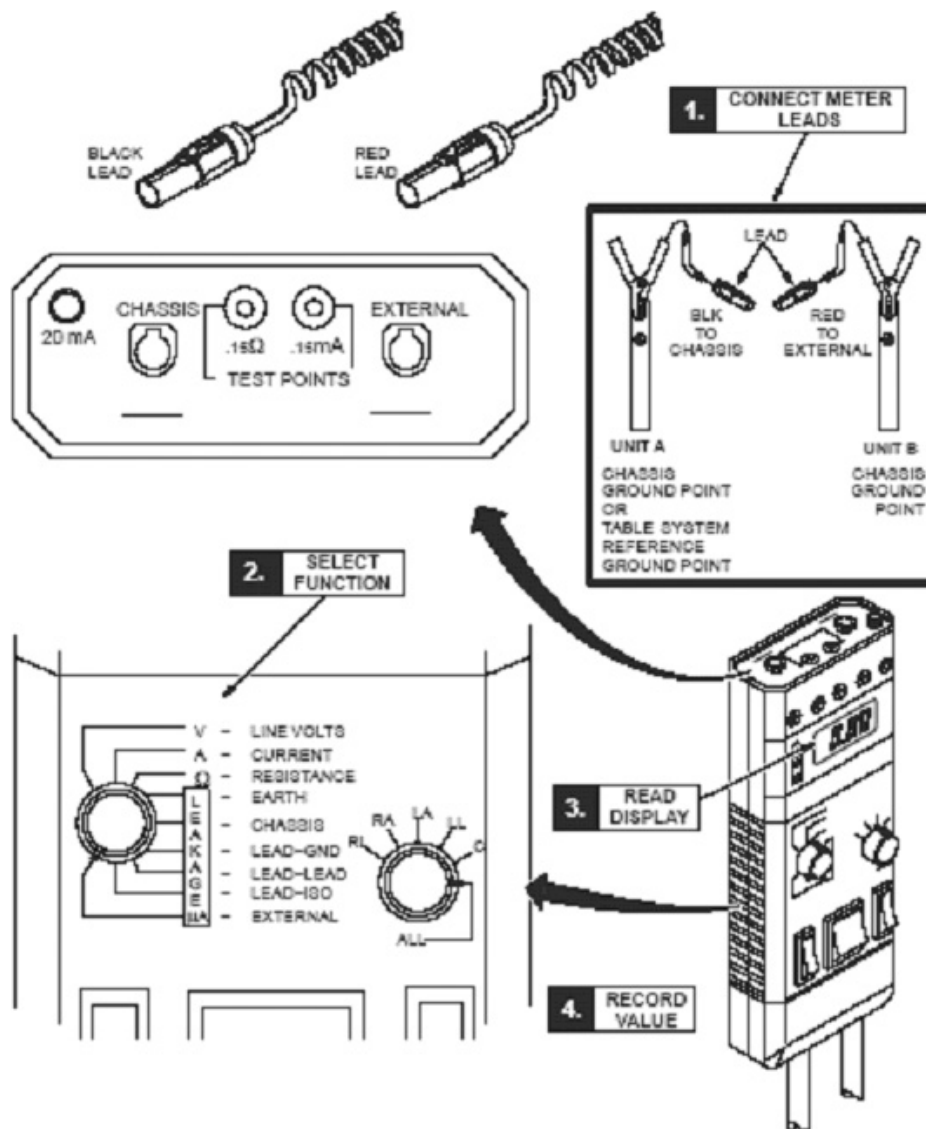

Figure 14-1 Using Dale 600 to Measure Leakage Current
- 1.) To measure leakage current using the Dale 600 meter, see Figure 14-1.